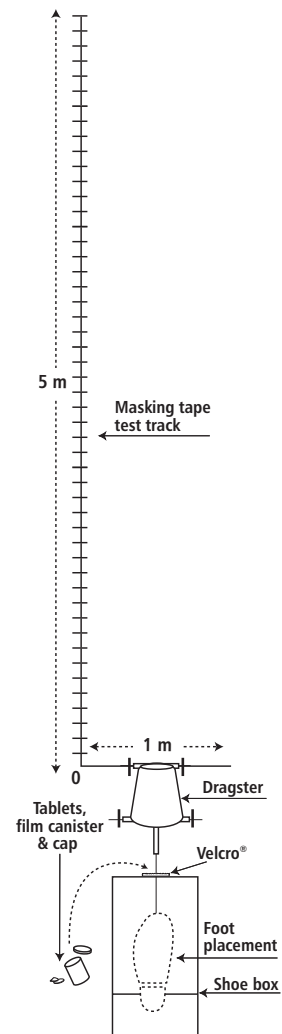

Figure 6
4. Place your foot into the shoe box to hold it in place during the test. Adjust the box and dragster as needed. See figure 6.